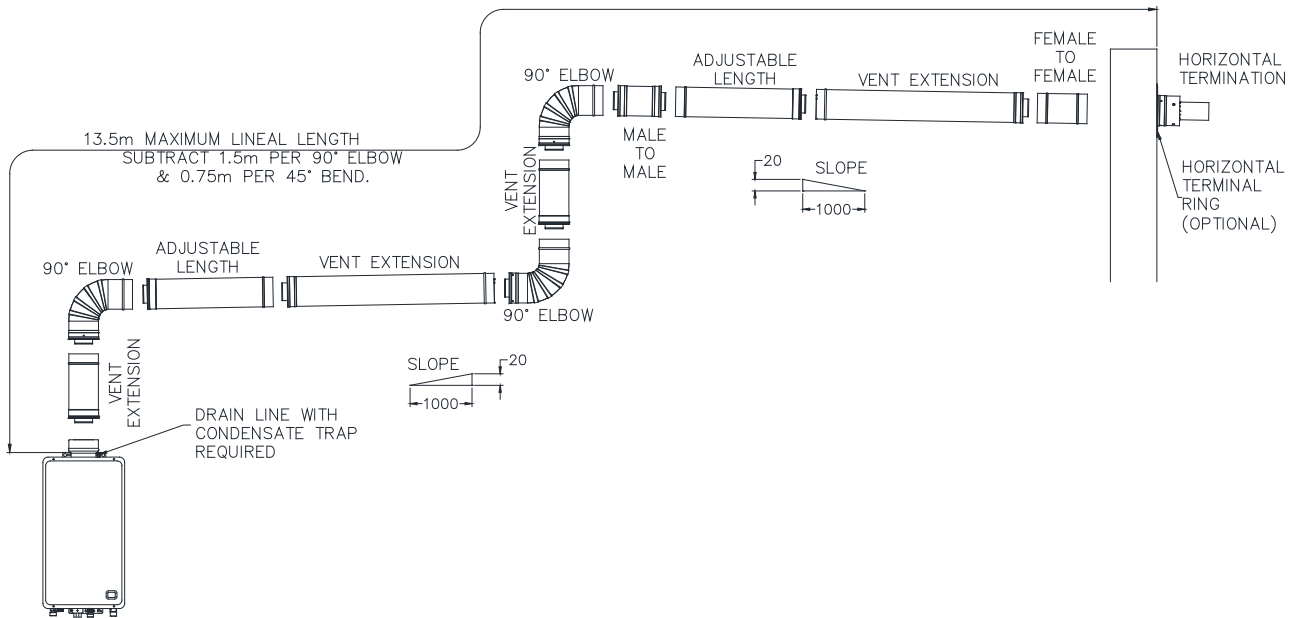

Figure 20- Typical Installation Horizontal Terminal with Multiple Vertical and Horizontal Sections
- Where there is a horizontal run of flue between two elbows and the elbow closest to the flue terminal is orientated upward. Refer to Figure 20- Typical Installation Horizontal Terminal with Multiple Vertical and Horizontal Sections on page 35. This horizontal run of flue must have a gradient upward to the flue terminal. Condensate will drain back toward the water heater.